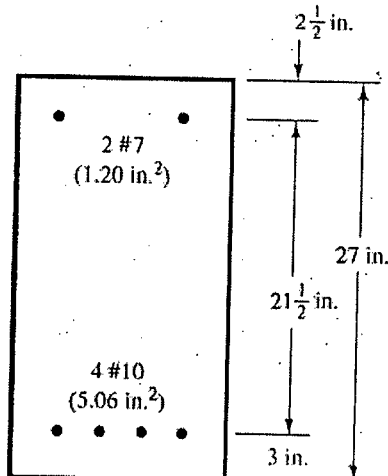

Fig: 4
- (c) Compute the stresses in the compression steel f'_s , for the doubly reinforced beam section shown in Fig. 4. Also compute the design moment strength for the section. Given: $f'_c = 4$ ksi and $f_y = 60$ ksi. (20)